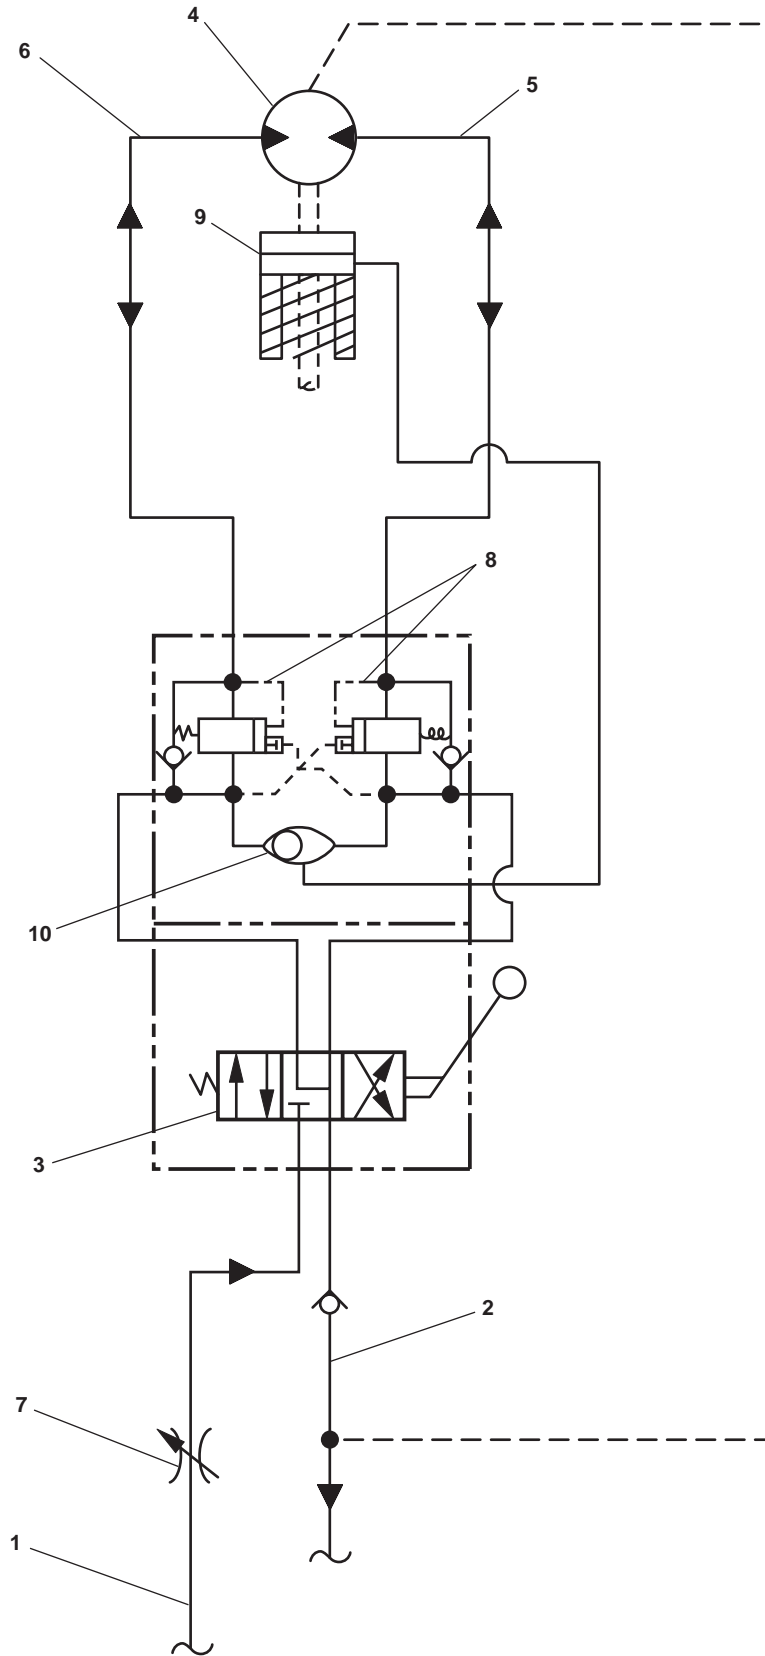

Figure 6. Capstan Hydraulic System
The capstan (figure 6) receives its hydraulic power from the central Hydraulic Power Unit (HPU).
Both the supply (figure 6, item 1) and return (figure 6, item 2) lines flow through the capstan control valve (figure 6, item 3). When the capstan control valve is in the NEUTRAL position, the supply line is CLOSED, and no supply flow is permitted to enter the capstan motor (figure 6, item 4). At the same time, both sides of the capstan motor are OPEN to the return piping. When the capstan control valve is shifted toward the return spring, the supply is routed to the right side of the capstan motor (figure 6, item 5) and return flow comes from the left side of the capstan motor (figure 6, item 6), causing capstan motor rotation. When the capstan control valve (figure 6, item 3) position is reversed, flow to the capstan motor is reversed, reversing the direction of motor rotation.
Supply flow is controlled by a flow control valve (figure 6, item 7) that permits a maximum of 15 gal/min (57 L/min) to enter the capstan control valve (figure 6, item 3). This flow control valve prevents overspeed operation of the capstan.
Counterbalance valves (figure 6, item 8) are installed between the capstan control valve (figure 6, item 3) and the capstan motor. The counterbalance valves act as a hydraulic brake to prevent the capstan from overrunning the hydraulic motor. The counterbalance valves also ensure that the capstan motor (figure 6, item 4) will only turn when pressure is applied from the capstan control valve.
A fail safe brake (figure 6, item 9) is fitted between the capstan's gear train and the capstan motor (figure 6, item 4). This brake is a spring-applied, pressure-released design. In this design, an internal spring assembly applies the brake until hydraulic pressure is applied to release it. In the capstan circuit, hydraulic pressure is supplied to the fail safe brake assembly any time that the capstan control valve (figure 6, item 3) is moved away from the NEUTRAL position. When the capstan control valve (figure 6, item 3) is returned to the neutral position, the pressure is removed from the fail safe brake and the springs apply the brake, providing a mechanical braking action to the capstan motor output shaft.
A shuttle valve (figure 6, item 10) is provided to prevent fail safe brake pressure from returning directly to the reservoir at the counterbalance valves (figure 6, item 8).